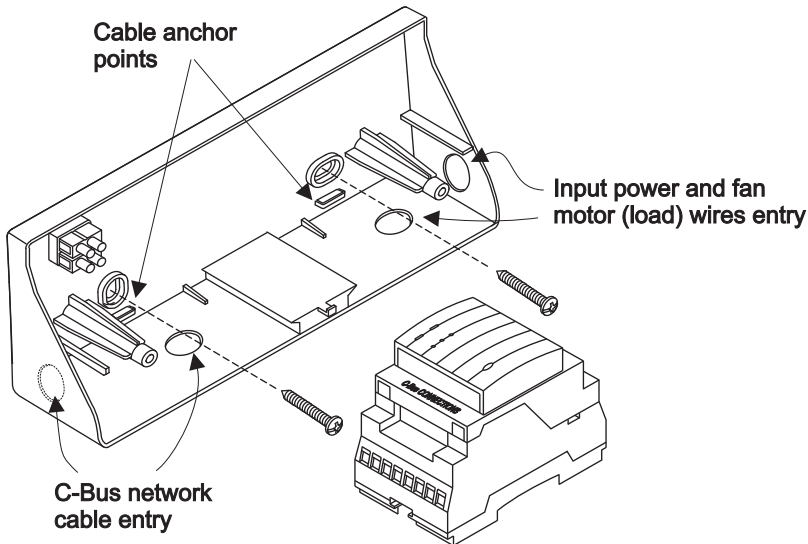

Figure 4. The optional 5501FRE Fan Controller Enclosure
**Note:** Placing the fan controller inside the enclosure creates a physical barrier between the C-Bus and the mains/fan control areas of the enclosure. The unit can only be fitted inside the enclosure in the orientation shown in Figure 4.